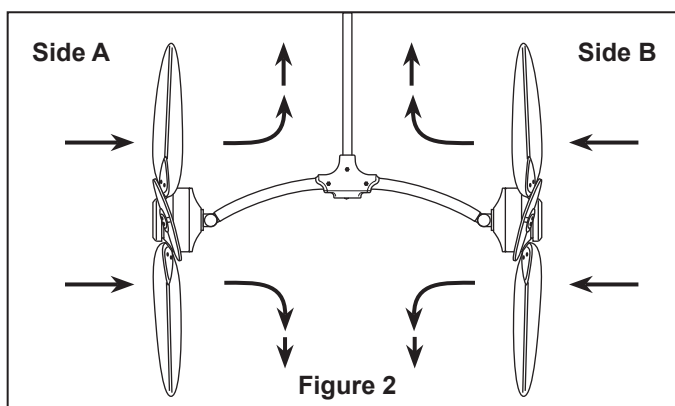

Figure 3:
5. Attach assembled blades and blade holders to the motor hub using the provided screws & lock washers. (Figure 3)